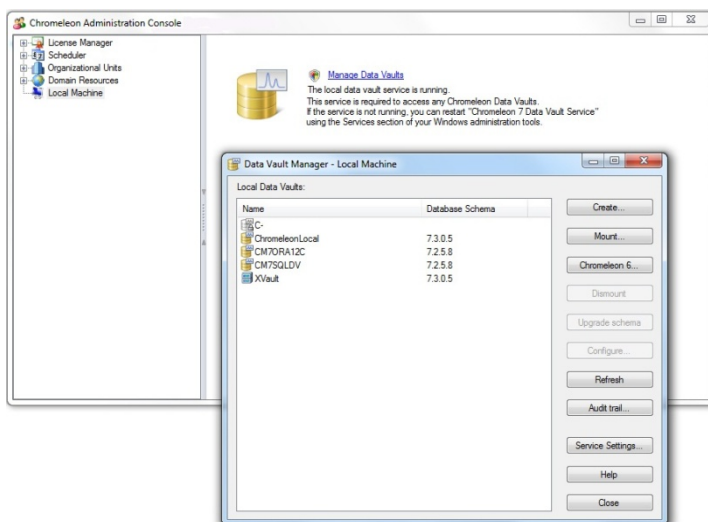

Figure 17: Starting the Data Vault Manager
1. Open the Administration Console, click **Local Machine** in the left pane (Figure 17).
4. The Data Vault Manager opens in a separate window (Figure 17).
2. In the **Data Vault Manager – Local Machine** window, click **Create...**, Figure 17